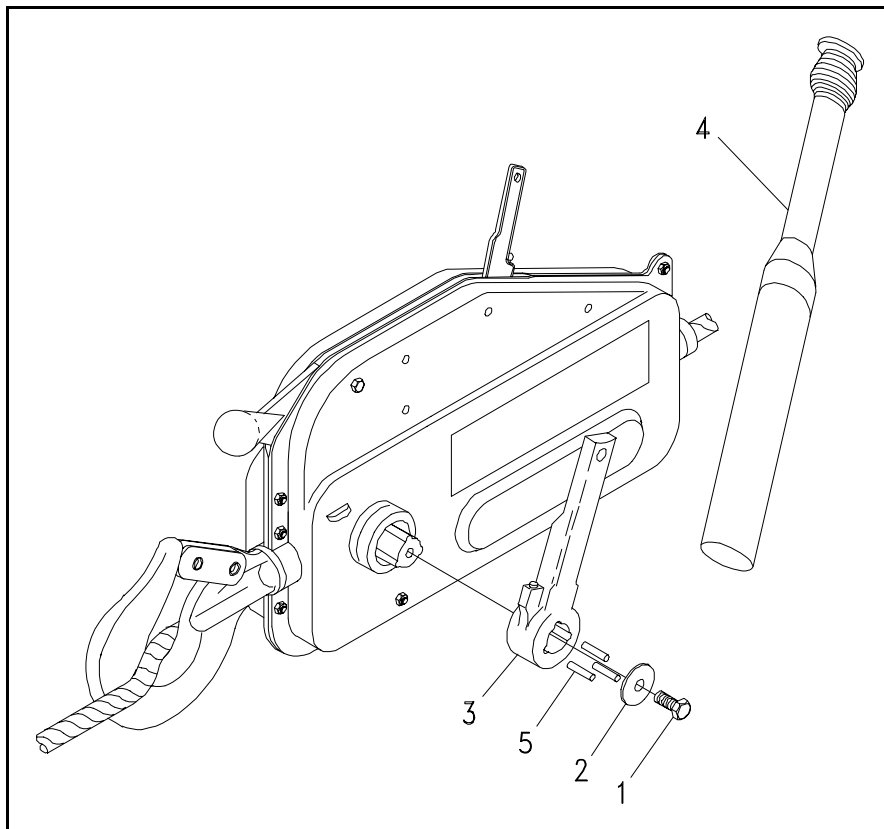

Figure H-3. Shear Pin Replacement.
- b. Remove bolt (1, Figure H-3), and shearpin retaining washer (2) from crankshaft.
- c. Use gear puller to remove power stroke lever (3) from crankshaft. If no gear puller is available, work telescopic operating handle (4) back and forth to pull off power stroke lever (3).
- d. Remove broken shearpins (5); clear off burr produced by shearing.
- f. Replace washer (2) and bolt (1).